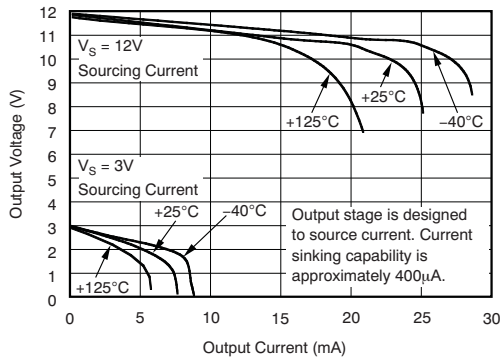

Figure 8. Positive Output Voltage Swing vs Output Current
(2) Total output error includes effects of gain error and V_{OS} .
(3) Linearity is best fit to a straight line.
(4) For details on this region of operation, see the Accuracy Variations section in the Device Functional Modes.
(5) See Figure 8.
(6) Specified by design.